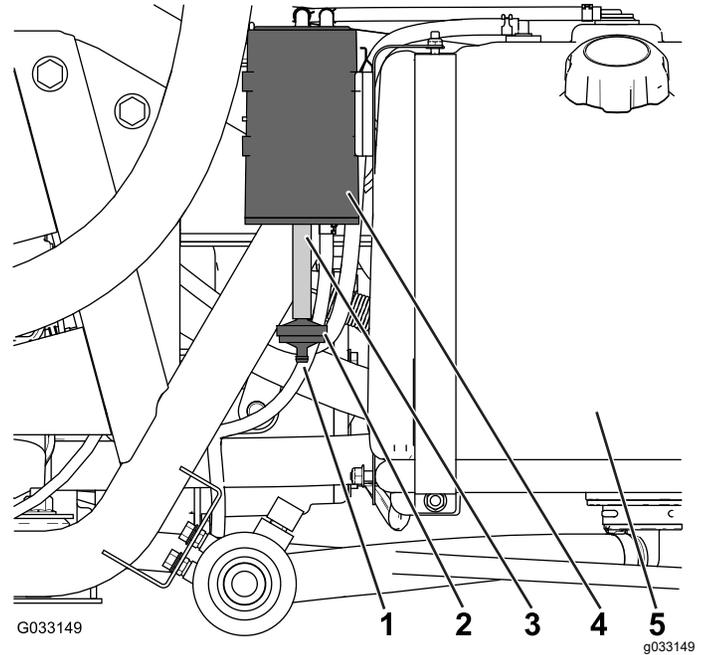

Figure 48
Check the opening at the bottom of the air filter for the carbon canister to ensure that it is clean and free of debris and obstructions (Figure 48).
1. Remove the barbed fitting of the carbon-canister filter from the hose at the bottom of the carbon canister, and remove the filter (Figure 48).